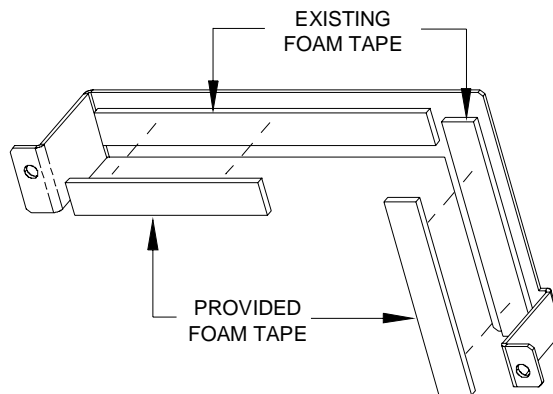

FIGURE 6 - FOAM TAPE INSTALLATION ON POWER SUPPLY MOUNTING BRACKET
**NOTE:** The replacement power supply may be slightly smaller in size than the power supply that was in your unit. Because of this, additional foam tape may need to be added to the power supply mounting bracket. If there is already a double layer of foam tape on the bracket, you do not need to install additional tape. If there is only a single layer of tape, and the new power supply isn't seated correctly, follow the guide in Figure 6 below to properly install the provided tape on top of the existing tape.